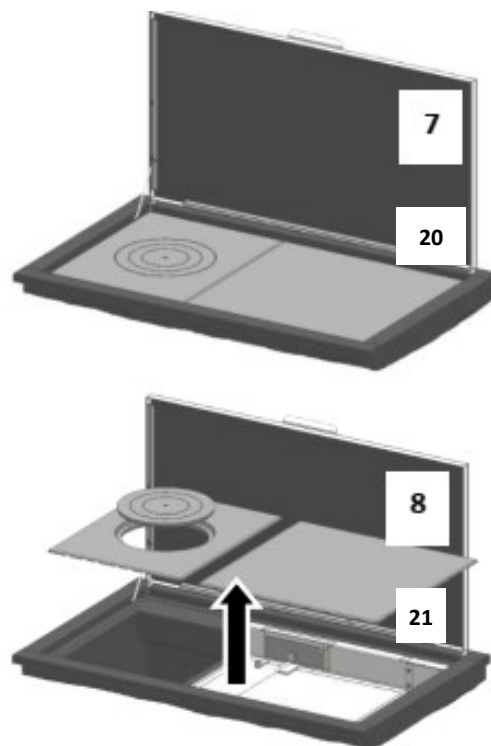

FIG. 22
2. Dismantle the draught rod (figure 22).